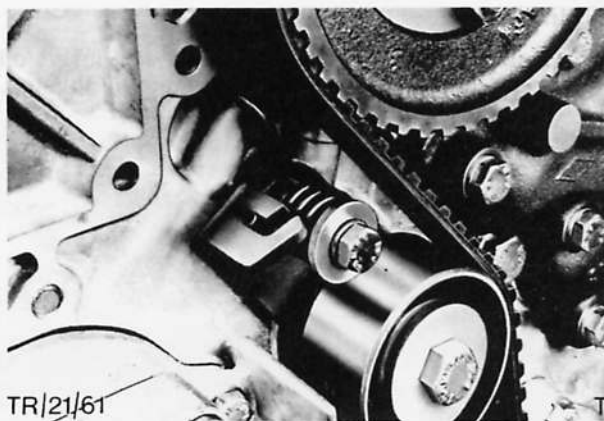

Fig. 145. Slacken toothed belt tensioner
13. Slacken toothed belt tensioner, Fig. 145 using screwdriver and remove toothed belt.